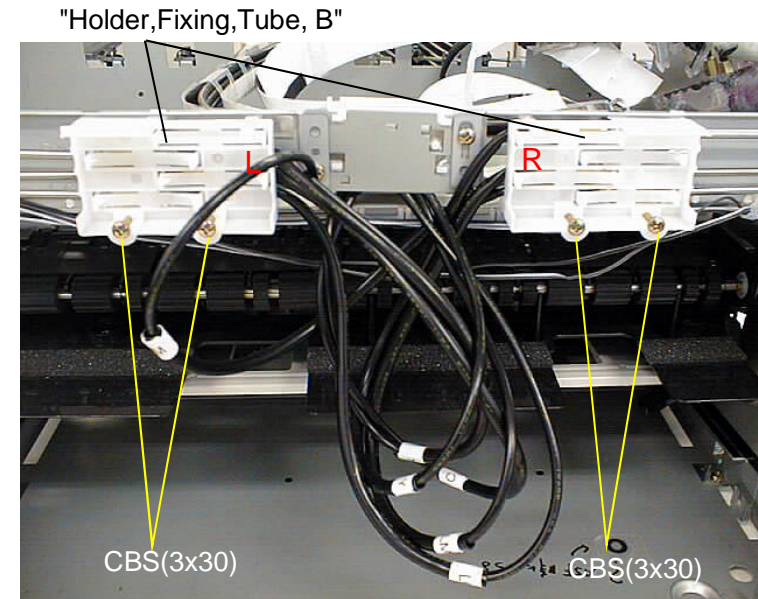

Figure 4-39. "Holder, Fixing, Tube, B" Removal
2. Remove each 2 CBS screws (3x30) securing "Holder, Fixing, Tube, B", and remove "Holder, Fixing, Tube, B" from the mechanism. (Refer to Figure 4-39)